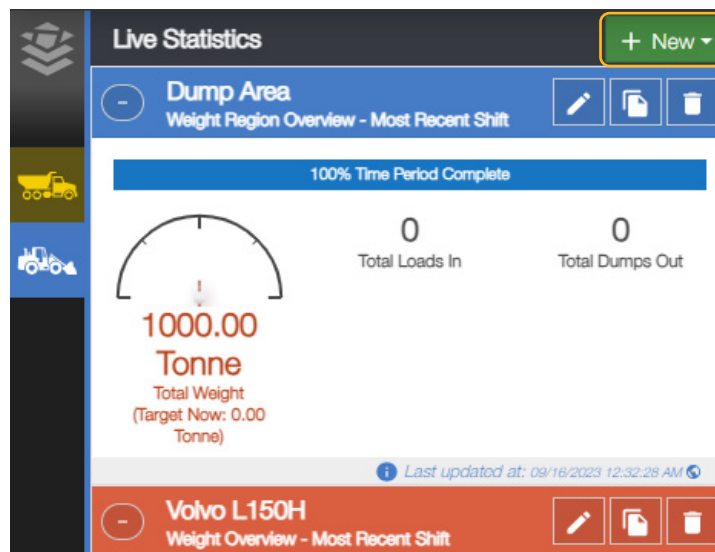

Figure 6-2: Select New Loader Widget
1. Select **Loader**  on the Sitelink3D website to open the **Live Statistics** pane (Figure 6-2).